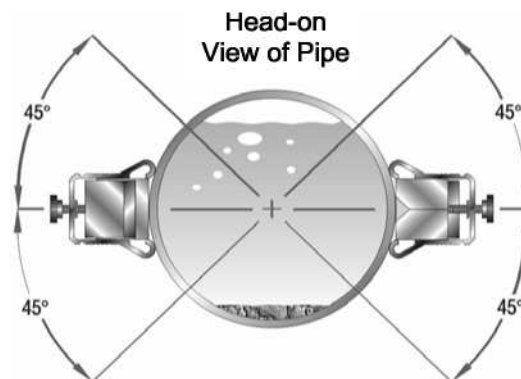

Figure 2.1
The HTTN and HTTH transducers need to be properly oriented on the pipe to provide optimum reliability and performance. On horizontal pipes, the transducers should be mounted 180 radial degrees from one another and at least 45 degrees from the top-dead-center and bottom-dead-center of the pipe. See **Figure 2.1**. Figure 2.1 does not apply to vertically oriented pipes.
3. Crease the paper at the fold line. Mark the crease. Place a mark on the pipe where one of the transducers will be located. See **Figure 2.1** for acceptable radial orientations. Wrap the template back around the pipe, placing the beginning of the paper and one corner in the location of the mark. Move to the other side of the pipe and mark the pipe at the ends of the